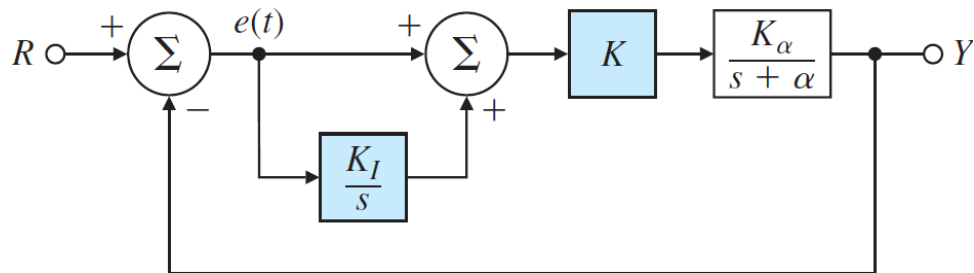
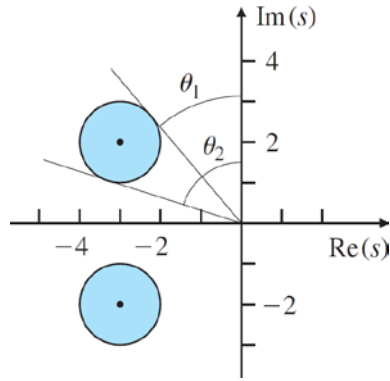

Fig. 3.59
Fig. 3.60
8. Suppose you are to design a unity feedback controller for a first-order plant depicted in Fig. 3.59. As you will learn in Chapter 4, the configuration shown is referred to as a proportional-integral controller. You are to design the controller so that the closed-loop poles lie within the shaded regions shown in Fig. 3.60.
- (a) What values of ω_n and ξ correspond to the shaded regions in Fig. 3.60 (A simple estimate from the figure is sufficient).